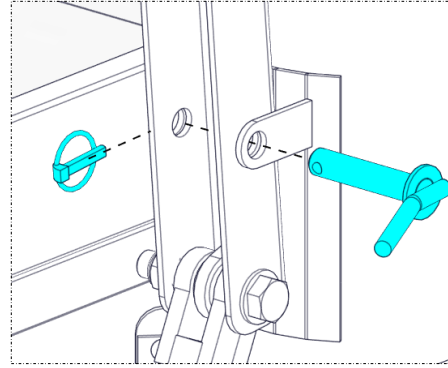

Figure 4.24
F) Insert the lock pin and lynch pin to secure the cylinder lock to the auger tube (Figure 4.24). The angle of the discharge auger can now be adjusted using the hydraulics.